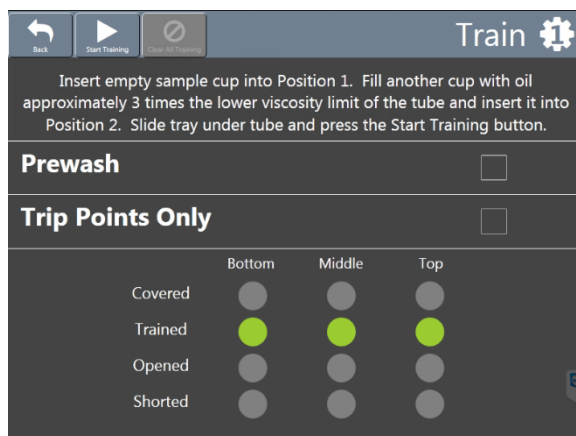

Figure 15 — Train Screen
- From the main screen, click the tube button  for the appropriate bath. The train screen opens. See Figure 15.